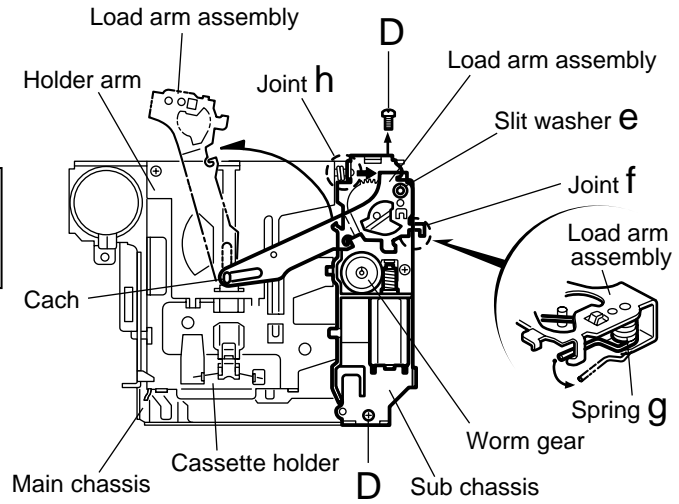

Fig.4
■ Removing the load arm assembly (See Fig.4)
■ Removing the sub chassis (See Fig.4)
(See Fig.4 and 6)